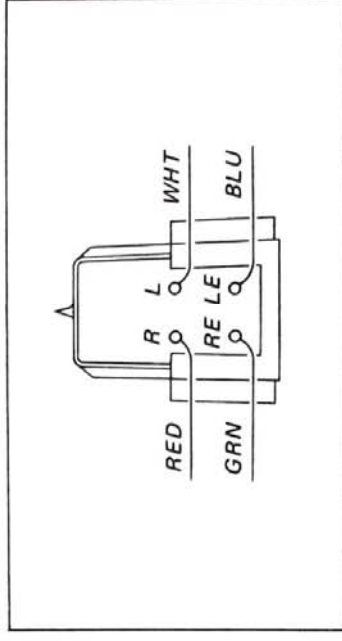

Fig. 2-10. Wiring diagram
4. Remove the defective cartridge, and install the new cartridge. Refer to the wiring diagram shown in Fig. 2-10, when installing it.